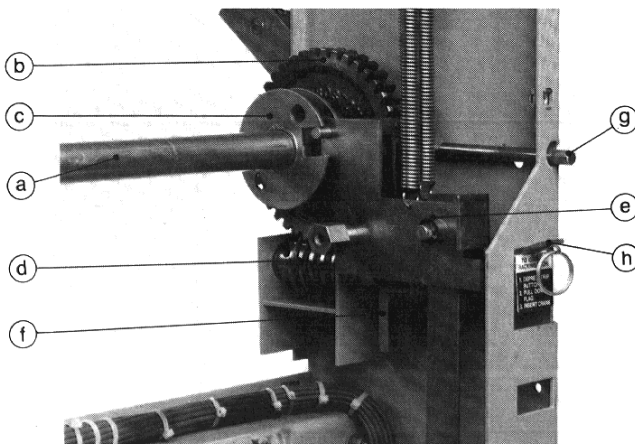

Figure 11. Levering-In Mechanism and Interlocks
The breaker is moved between the disconnected and connected positions by the levering-in device. This consists of a shaft which is supported by the breaker frame side sheets, and which has a crank arm at each end (Figure 1). Rollers attached to the crank arms engage vertical slots in plates attached to the cell and rotation of the shaft causes the breaker to move in and out of the breaker housing. The levering-in shaft supports a worm wheel at its right end just inside the right breaker side sheet (Figure 11). The worm wheel is rotated by a worm gear on a shaft which is terminated in a hexagon drive nut attached by a shear pin. The shaft points in a direction from the front to the back of the breaker. This hexagon shaft has a threaded portion carrying a threaded plate. As the shaft is rotated, the threaded plate moves along the worm shaft until it encounters either a front or a back sleeve attached to the shaft and further rotation of the worm shaft is prevented. At this time, the position indicator on the front of the breaker will indicate that the breaker is either in the connected or disconnected position. A sockethead bolt mounted on the left side sheet serves as a backup to the threaded plate, providing a positive stop to left crank arm.
Access to the hexagon drive nut on the levering-in device is restricted by a shutter on the front panel of the breaker (Figure 11). This shutter is pivoted on the breaker frame and has a projecting pin which engages a slot on a cam on the levering-in shaft. This particular cam has two (2) slots arranged so that the shutter can only be in its upward position when the levering in cranks are in the connected, test or disconnected position. The shutter cannot be moved downward until the trip plate is pushed inward and the secondary disconnect plug is inserted. Pushing the trip plate inward moves one prop out of the way of the shutter. Insertion of the secondary plug pushes the blocking plate backward and rotates a second prop out of the way of the shutter. Then, downward movement of the shutter causes a lever operating in parallel with the shutter to move downward, and a projecting pin on this lever disengages a second cam located next to the shutter cam. Downward movement of the lever moves a bolt which locks the secondary disconnect plug in its connected position. The second cam has only one slot and the lever can only move upward when the levering-in shaft is in the disconnected position.